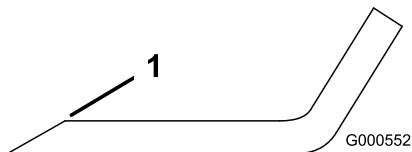
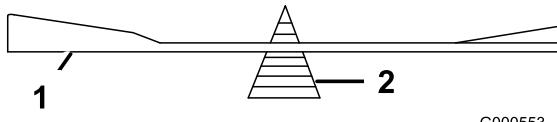

Figure 39
Figure 40
1. Use a file to sharpen the cutting edge at both ends of the blade (Figure 39). Maintain the original angle. The blade retains its balance if the same amount of material is removed from both cutting edges.
- 2. Check the balance of the blade by putting it on a blade balancer (Figure 40). If the blade stays in a horizontal position, the blade is balanced and can be used. If the blade is not balanced, file some metal off the end of the sail area only (Figure 39). Repeat this procedure until the blade is balanced.